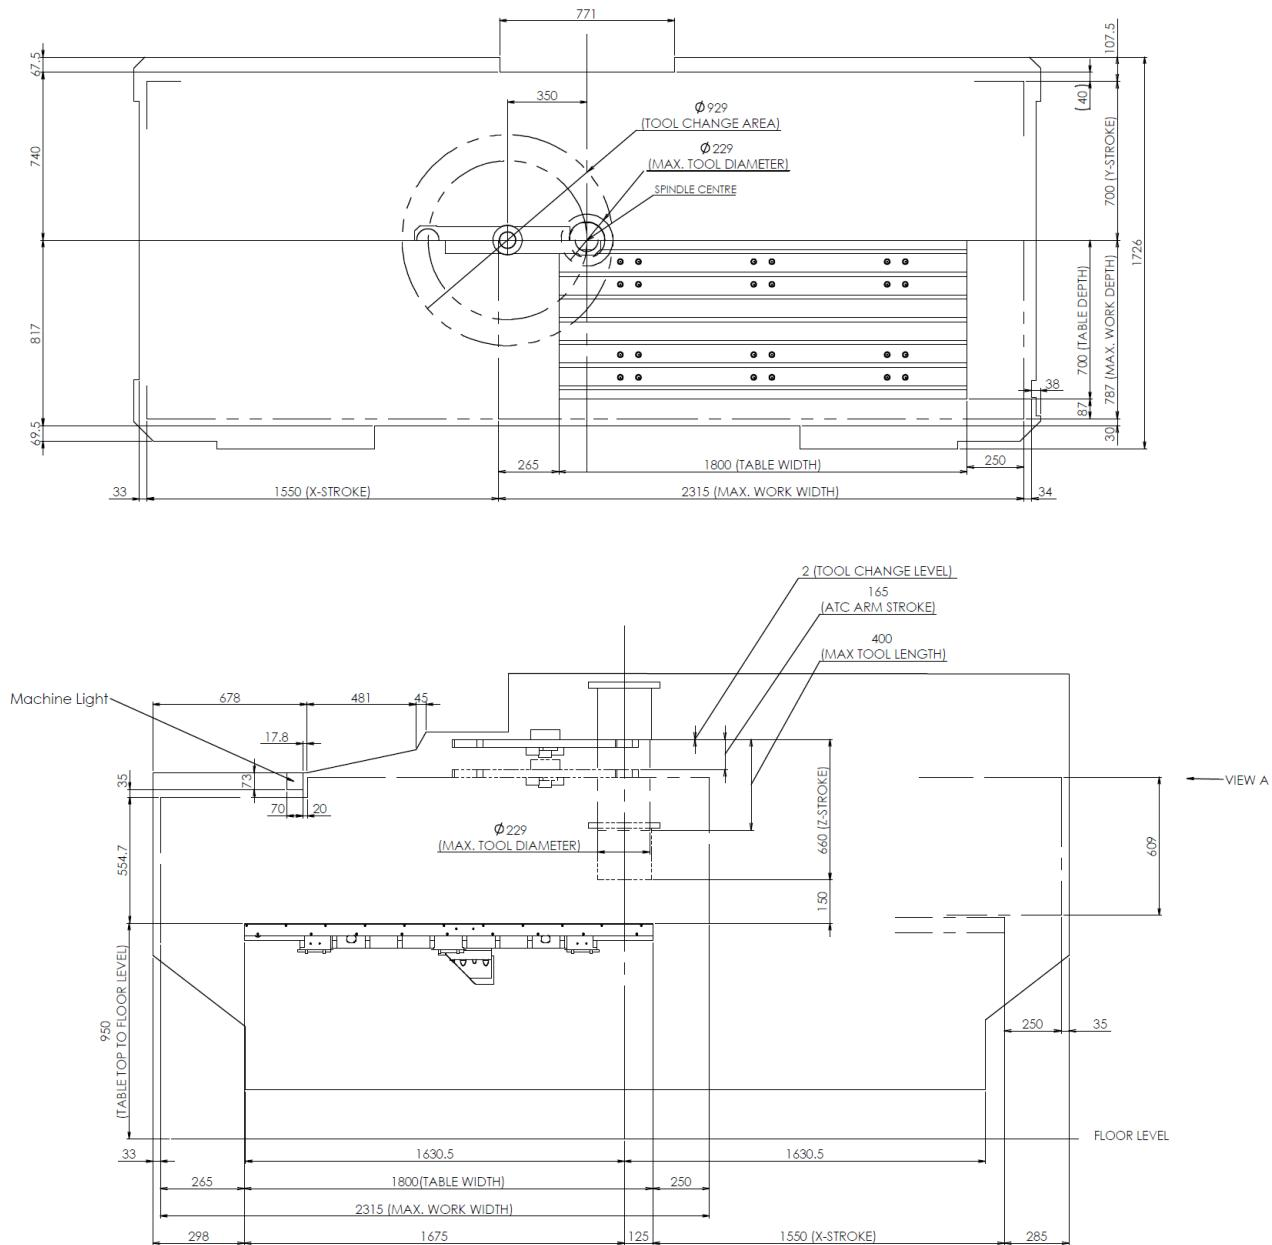
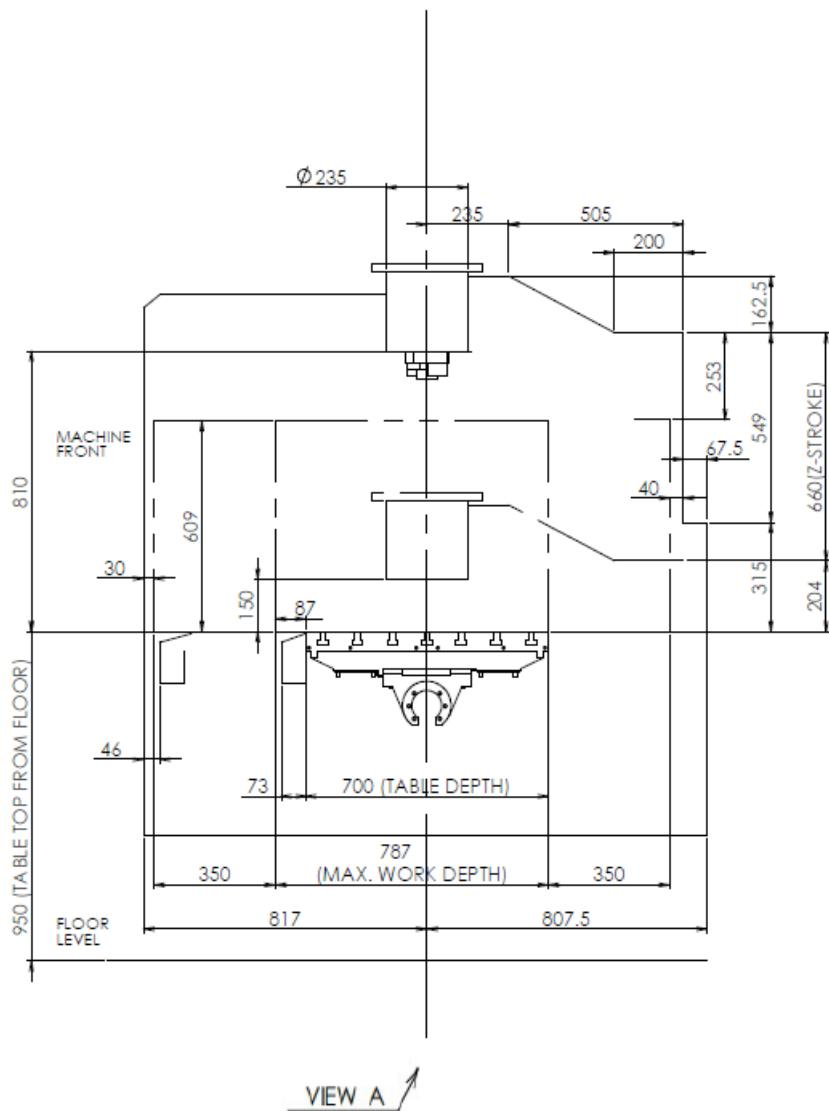

Figure 1.5 PS155 (SPD-14K) Machine Stroke Limits & Work Area 1
Figure 1.8 PS155 (SPD-10K Option) Machine Stroke Limits &amp; Work Area 2
- When the X/Y/Z-axis is moved, the workpiece must be within the movement range. (Refer to Figure 1.5 to Figure 1.8)
- A portion of the workpiece shape must be changed for exchanging tools that exceed the tool shape limitation (Refer to Figure 1.5 to Figure 1.8).